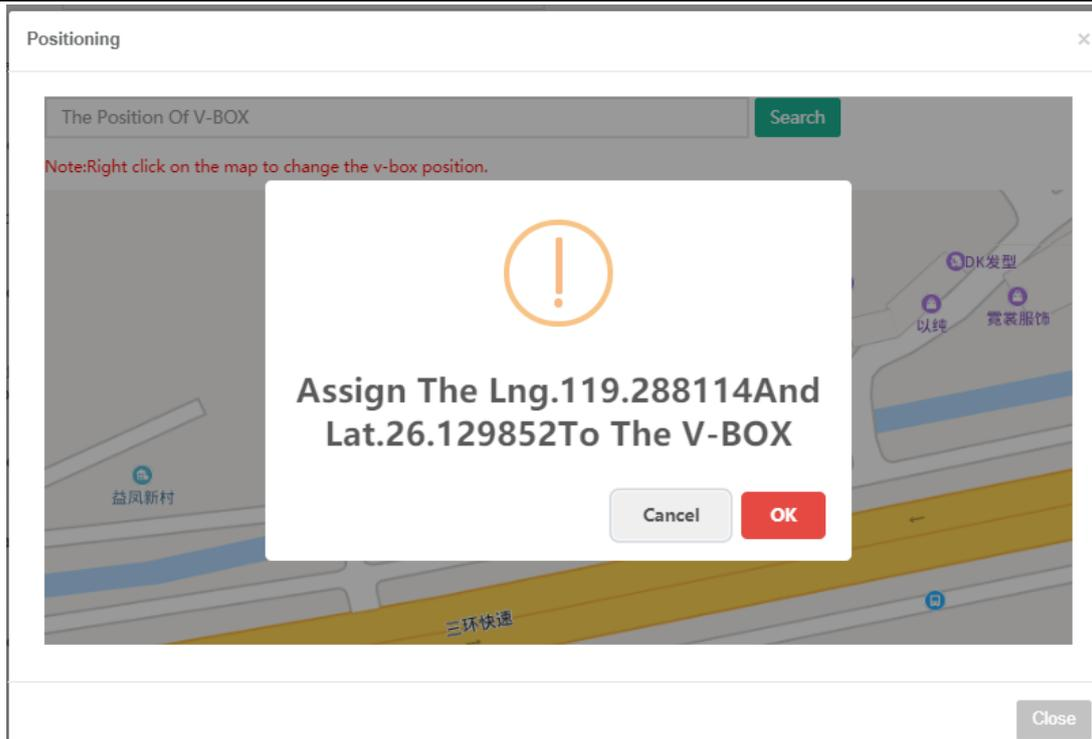

Figure 4-3
- 5) Select the position in the map, and right click position in the map, it will pop-up message as shown in Figure 4-3;